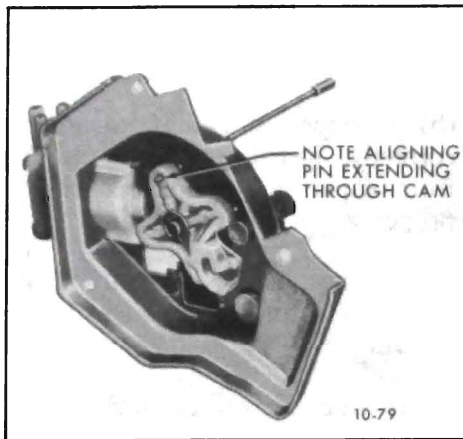

Figure 10-53 Pump Cam Alignment Pin in Place
installing pump assembly on wiper motor. See Figure 10-53.
7. Rotate washer pump drive cam so that hole in cam and hole in washer pump mounting plate are aligned. Insert a length of 1/8" rod through pump mounting plate and cam to maintain alignment while installing pump assembly on wiper motor. See Figure 10-53
9. Rotate washer pump drive cam so that hole in cam and hole in washer pump mounting plate are aligned. Insert a length of 1/8" rod through pump mounting plate and cam to maintain alignment while installing pump assembly on wiper motor. See Figure 10-53.
10. Rotate washer pump drive cam so that hole in cam and hole in washer pump mounting plate are aligned. Insert a length of 1/8" rod through pump mounting plate and cam to maintain alignment while installing pump assembly on wiper motor. See Figure 10-53.